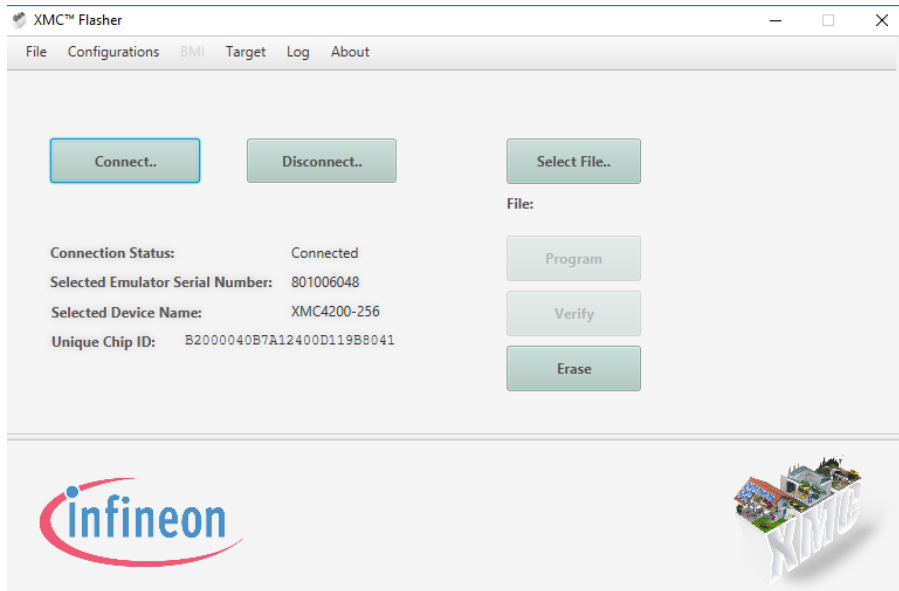

Figure 10. XMCFlasher Connected State Window
Step 7. The window will change and show the Connected Status as Connected (Figure 10). Additional information about the device will be shown including the Unique Chip ID.